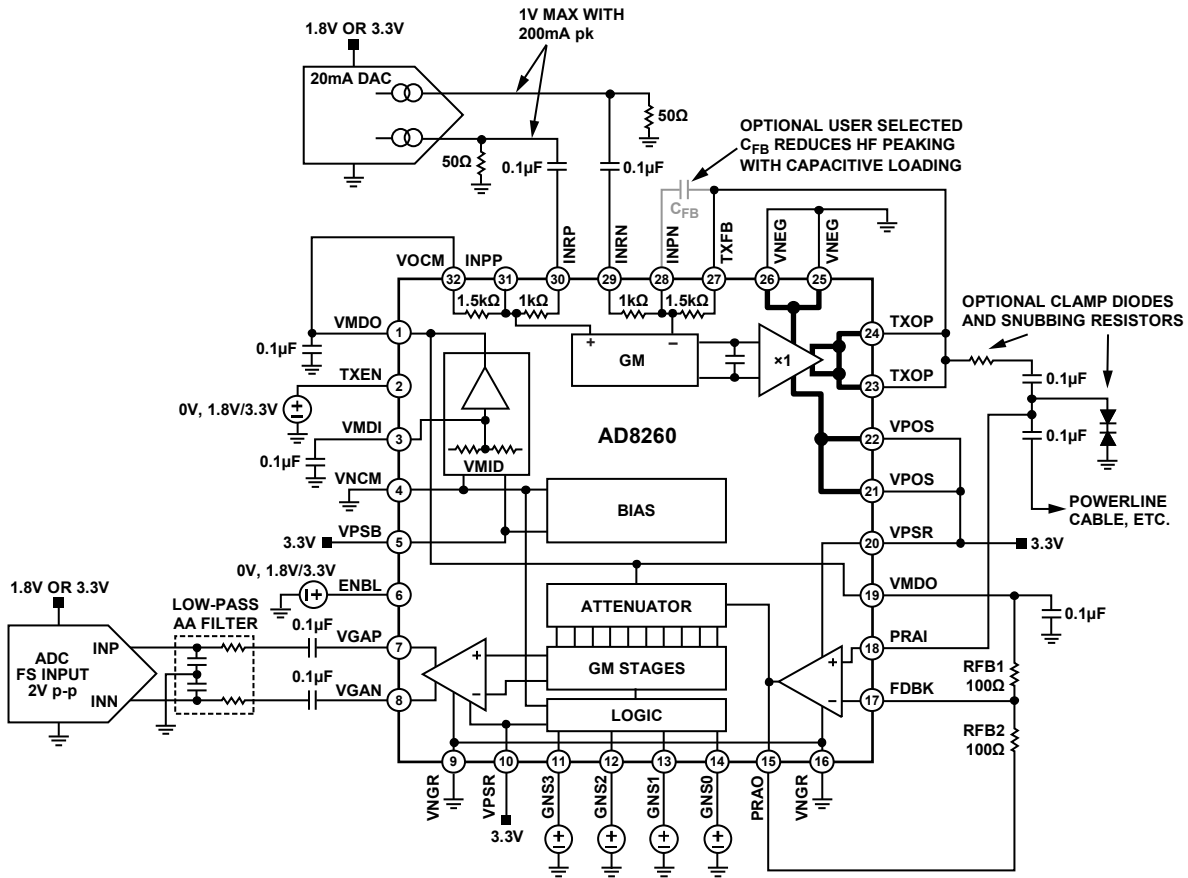

Figure 64. Block Diagram and Basic Application Connections
The AD8260 is a self-contained transceiver intended for analog communications using a power line as the media. Operating on supplies as low as 3.3 V, it includes a high current driver usable as a transmitter and a low noise digitally programmable variable gain amplifier (DGA), usable as a receiver (see Figure 64). An uncommitted current-feedback high frequency op amp acts as a preamplifier and interface to the DGA and is user configured for gains greater than 6 dB. Combined, the VGA and preamplifier are usable at high signal levels from dc to 100 MHz, with a small-signal -3 dB bandwidth of 230 MHz. To implement a high current-output VGA, the VGA output can be connected to the driver-amplifier differential input.
4-bit parallel interface. Figure 64 shows the circuit block diagram and basic application connections, and illustrates the envisioned external DAC, ADC, and power-line bus interface connections. The diagram shows the connections for single 3.3 V supply operation; if a dual supply is available, the VMID generator can be shut down and Pin VMDI, Pin VMDO, and Pin VOVM need to be grounded. Note that Pin VNCM functions as the negative supply for the bias and VMID cells, plus the logic interfaces, and should always be tied to ground.
For optimal dynamic range, it is important that the inputs and outputs to both the driver amplifier and the preamplifier and the DGA output amplifier be ac-coupled in a single-supply application. In Figure 64, the DAC and ADC are presumed to operate on a 1.8 V or 3.3 V supply with a corresponding limited output and input swing. The DAC outputs are currents that point down and generate a voltage in the $50\ \Omega$ resistors that are connected to ground. The maximum voltage with a peak DAC output current of 15 mA is 0.75 V; if a DAC with a 20 mA peak current is used, then the maximum voltage is 1 V per side for a differential input signal of 2 V p-p.
The high current driver amplifier can deliver very large output currents suitable for driving complex impedances, such as a power line, a 50 Ω line, or a coaxial cable. The input of the amplifier is fully differential and intended to be driven by a differential current-output DAC, as shown in Figure 64. The differential input signal is amplified by 1.5× and produces a 2.25 V p-p single-ended output signal from a 1.5 V p-p input signal. A DAC with 15 mA maximum output current into a 50 Ω load provides 1.5 V p-p of input voltage and results in 2.25 V p-p at the output. A DAC whose output is 20 mA produces an output swing of 3 V p-p (neglecting a small gain error when driving the parallel combination of the 50 Ω load-resistor and the internal 1 kΩ gain resistor of the AD8260).
During receive, when the high current driver-amplifier is disabled, its gain setting resistors provide a signal path from input to output. To prevent inadvertent DAC signals from being transmitted while receiving via the preamplifier and DGA, the DAC in Figure 64 must have no output signal.
The VMID buffer is a dc bias source that generates the voltage on Pin 1 and Pin 19, VMDO. Node VMDO cannot accommodate large dynamic currents and requires excellent ac decoupling to ground. A high quality 0.1μF capacitor located as close as possible to Pin 1 and Pin 19 (see Figure 64) is normally sufficient to decouple the high values of current from Node VMDO.
Referring to Figure 64, the signal path consists of a 30 dB programmable attenuator followed by a fixed gain amplifier of 18 dB for a total DGA gain range of -12 dB to $+18 \text{ dB}$. With the preamplifier configured for a gain of 6 dB, the composite gain range is -6 dB to $+24 \text{ dB}$ from single-ended preamplifier input to differential DGA output.
- Use the internal VMID buffer as shown in Figure 64.